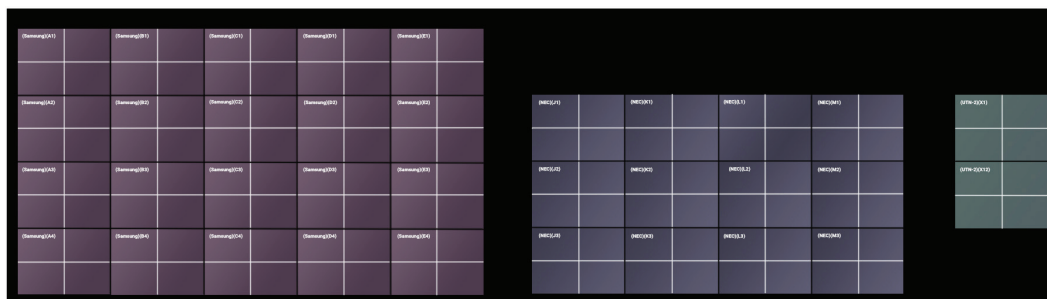

FIGURE 4-2. CUSTOM CONFIGURATION
- ◆ For recommended naming schemes for custom configurations created with Layout Control, such as multiple video walls or displays in artistic arrangements, including mixing portrait and landscape displays, contact the Black Box Technical Support team at 877-877-2269 or info@blackbox.com. Figure 4-2, below, shows a custom configuration created with Layout Control. The Layout Control capability is included with the Radian Flex Pro and is an option for the Radian Flex Standard.